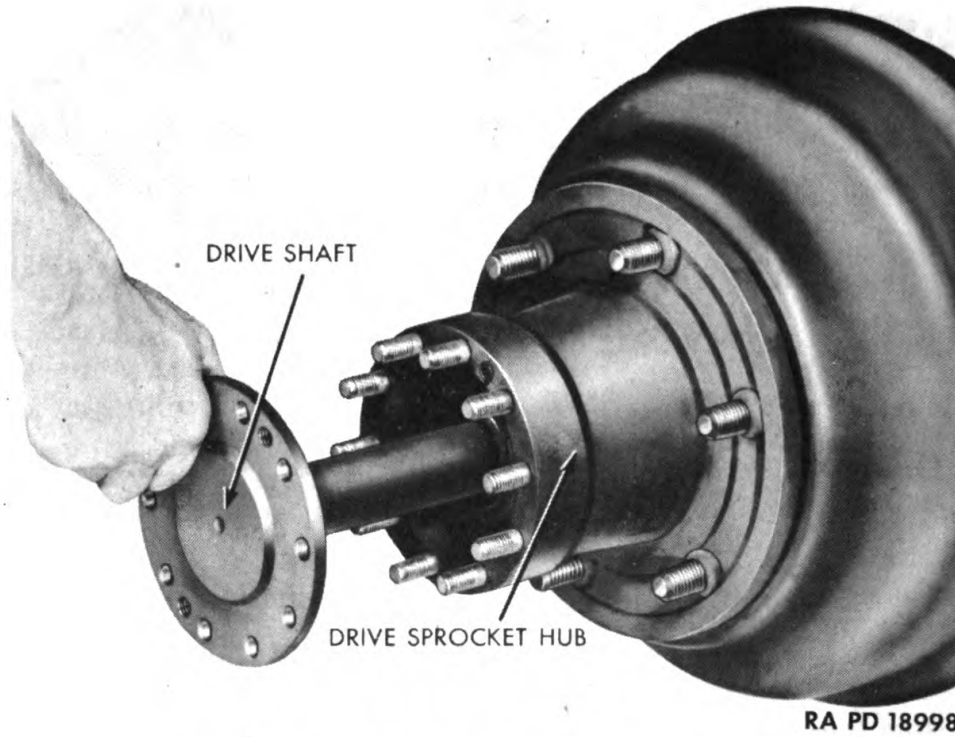

Figure 77 — Removing Rear Axle Drive Shaft
- b. **Remove Axle Shaft.** Remove 10 driving shaft flange nuts and lock washers from studs. Screw two flange screws into threaded holes, and force shaft from housing. Remove driving shaft from housing (fig. 77).